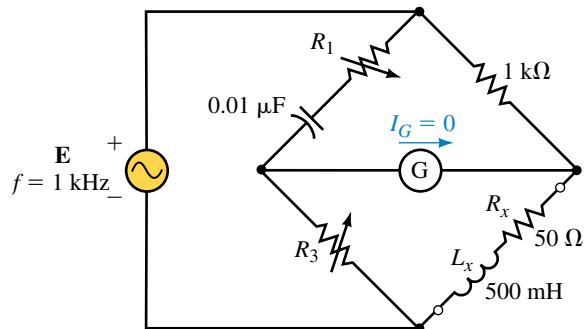

FIGURE 19-75
35. Determine the values of the unknown resistors which will result in a balanced bridge for the circuit of Figure 19-75.